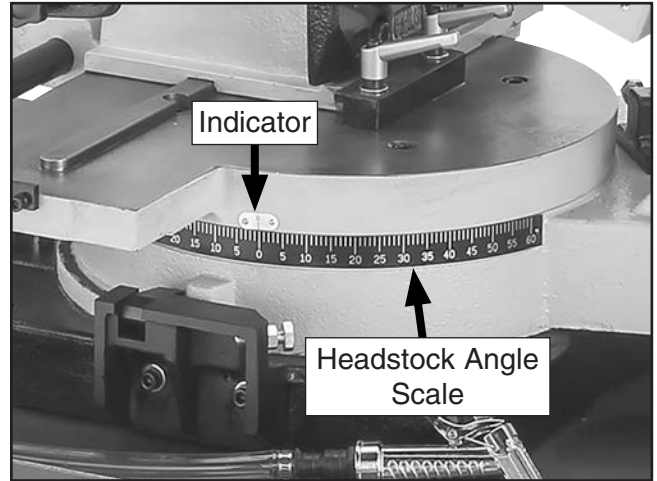

Figure 48. Location of headstock angle scale and indicator.
- Using scale and indicator shown in **Figure 48**, use headstock handle to swivel headstock to 0°, then tighten swivel lock lever to secure.